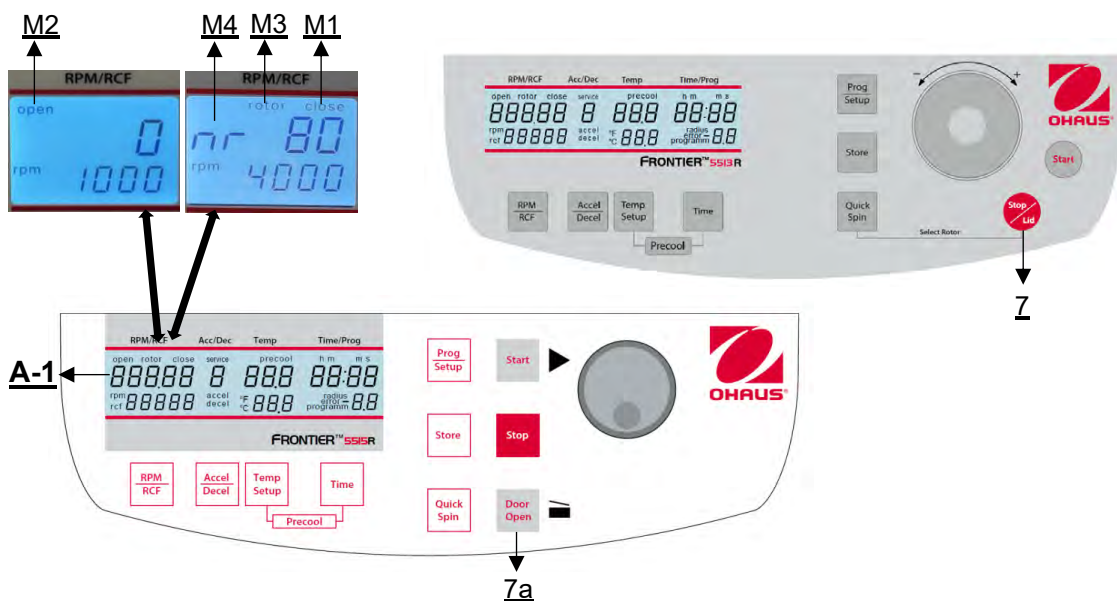

Figure 11
After the run, when the lid of the centrifuge remains closed, the word **"close"** (M1) will continued to appear in the display **"RPM | RCF"** (A-1). At the same time the actual rotor ID, e.g. **"nr 80"**, is shown in the display (M4). As soon as the lid is released by pressing the key **"Door Open"** (7a) or **"Stop | Lid"** (7) or, the word **"open"** (M2) appears. Now you can open the lid of the centrifuge. Please refer to **Figure 11** below for reference.
Please refer to **Figure 11** for reference.